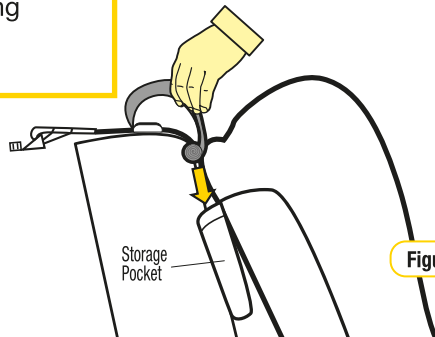

Figure 9
Step 7: Store any excess webbing, from the top tether strap, in the storage pocket provided on the restraint (refer to Figure 9).